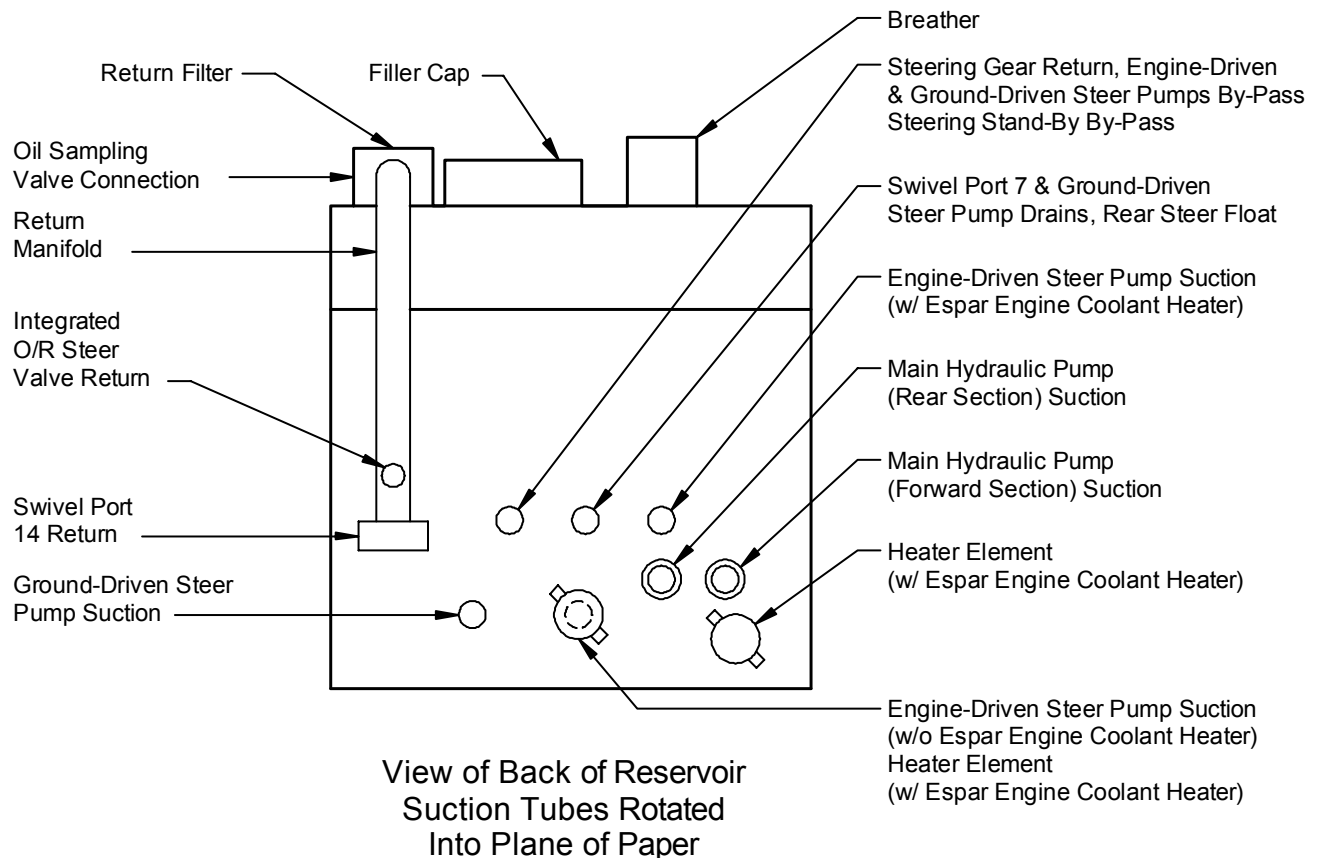

Figure J-4. Hydraulic Reservoir Connection Legend
Hydraulic Reservoir Modification. (Refer To Figures J-4, J-5, J-6, and J-7.) Modify the crane's hydraulic reservoir as follows:
- c. Locate the existing engine-driven steer pump suction tank flange on the lower part of the hydraulic reservoir. Refer to Figure J-4. Install pipe plug - P/N 6443100005 in the existing tank flange as far as it will go.